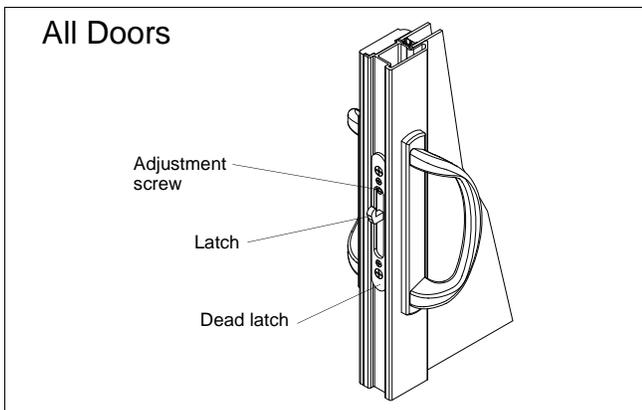

Figure 8
8. After the door and strike are aligned, adjust the latch pull by turning the adjustment screw to move the latch in or out of the mortise lock. The operator panel should be pulled snug by the lock, slight resistance should be felt at the end of the turn lever travel when locking if properly adjusted. See figure 8.